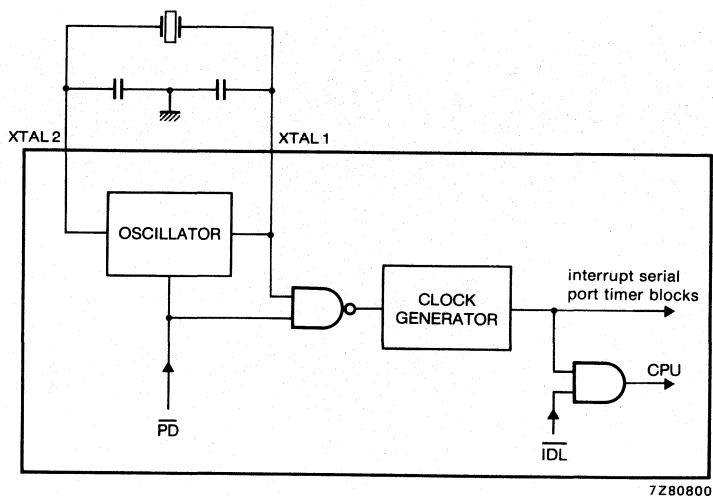

Fig. 6 Internal Idle and Power Down clock configuration.
**Idle and Power Down operation** (see Fig. 6)